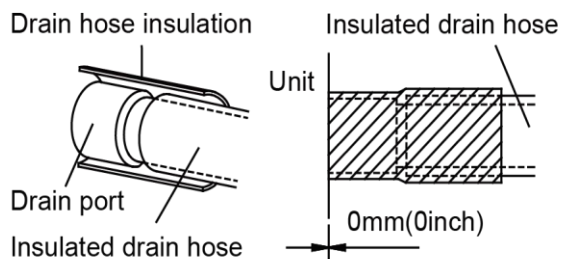

Figure 3-1-13
- (9) Be sure to insulate where the drain port and the drain hose is connected.(Figure 3-1-13)